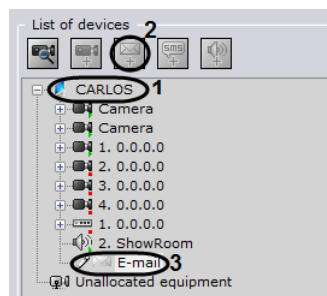

Fig. 6.4—33 Creating an E-mail object
1. In the list of devices, highlight a **Server** object (Fig. 6.4—33, 1)
2. Click the  button (see Fig. 6.4—33, 2).